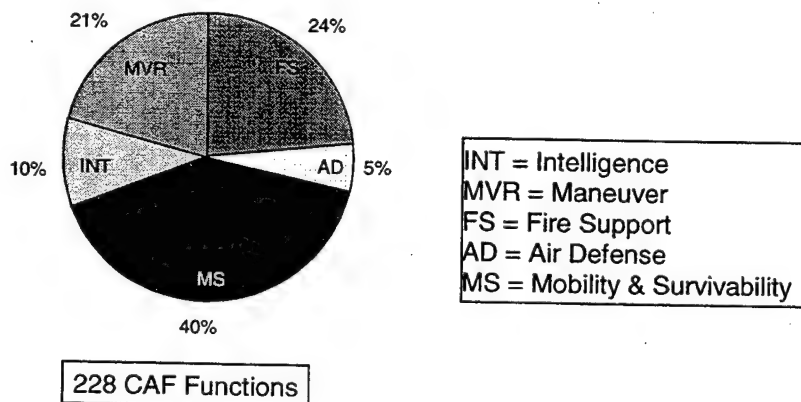

Figure 7. Percent of OC and TAF analyst CAF functions, by battlefield operating system (BOS).
Based on our interviews with NTC OCs and TAF analysts, who supported the TF XXI AWE, we updated CAF requirements contained in the TAAF Aids analysis. Appendix D contains the results of this updated analysis illustrating weapon and RSTA system intrinsic and extrinsic feedback requirements and trainer functions. Figure 7 shows the breakdown of 228 OC and TAF analyst CAF functions among five BOSSs. We address the remaining BOSSs, C2 and combat service support (CSSS) in the CRIOT and A3RM Studies. The pie chart reveals that OCs and TAF analysts are intensely involved in control actions and data collection/entry for the mobility and survivability (MS), fire support (FS), and maneuver (MVR) BOSSs. Although most of the intelligence (INT) CAF functions involve gathering data for extrinsic feedback, OCs and analysts perform intrinsic functions to support simulation of the Firefinder counterfire radar. Despite MILES, OCs and TAF analysts have major CAF functions to perform to support the air defense (AD) BOS.